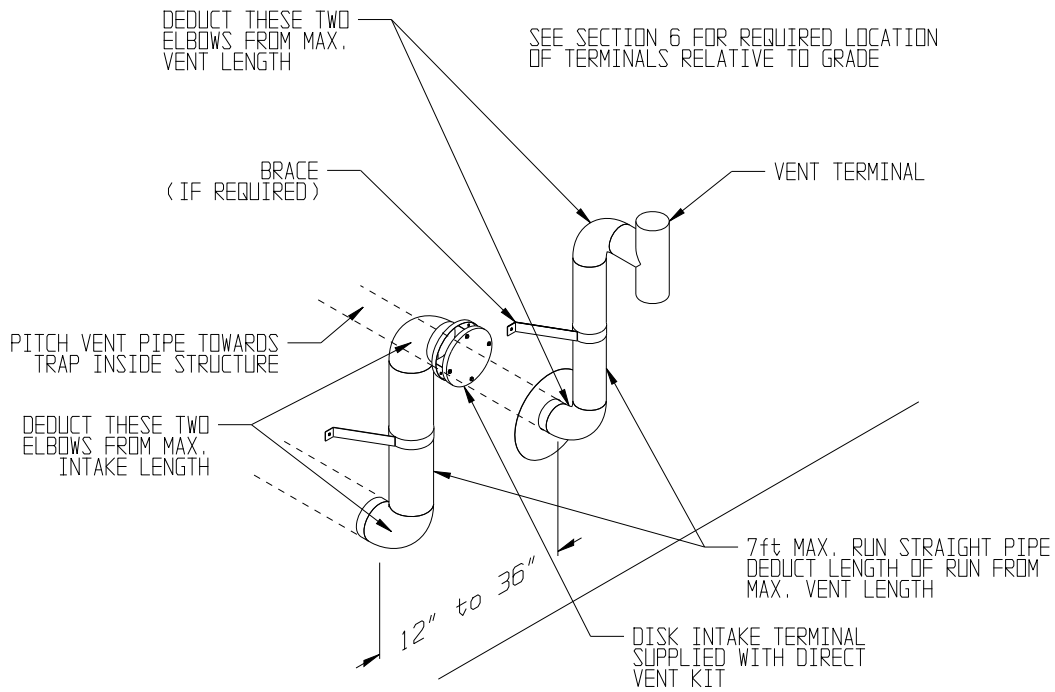

Figure A-5: Horizontal Terminal Offsets
6. Terminal Offsets – When horizontal terminals are offset as shown in Figure A-5, both must be offset vertically by the same distance.